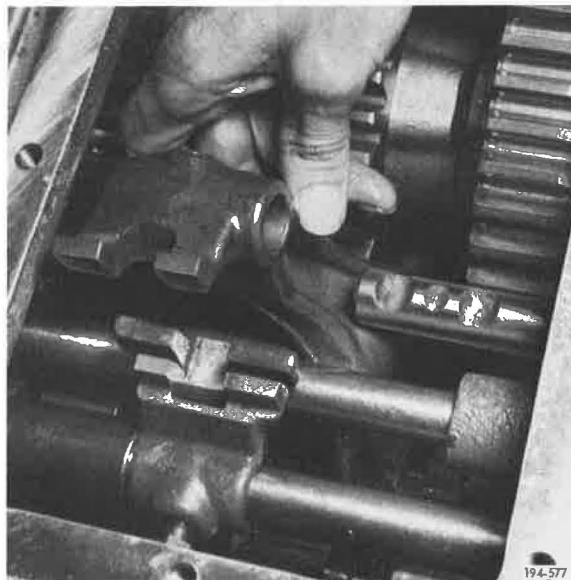

Figure 31. Sliding Shift Rail Forward
30. Slide fourth/fifth speed shift rail forward out of main box, and at the same time remove fourth/fifth speed shift fork. See Figures 31 and 32.